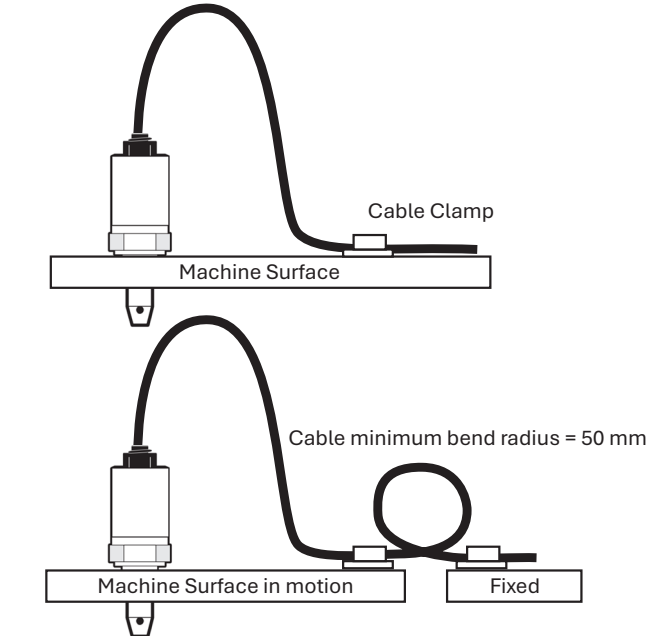

Fig. 5-1 Cable Fitting
- Refer to Fig. 5-1. To prevent vibration having any adverse effects to the cable/sensor connectors, the cable must either be mounted on the same plane as the sensor, or have a loop fitted to absorb vibration.